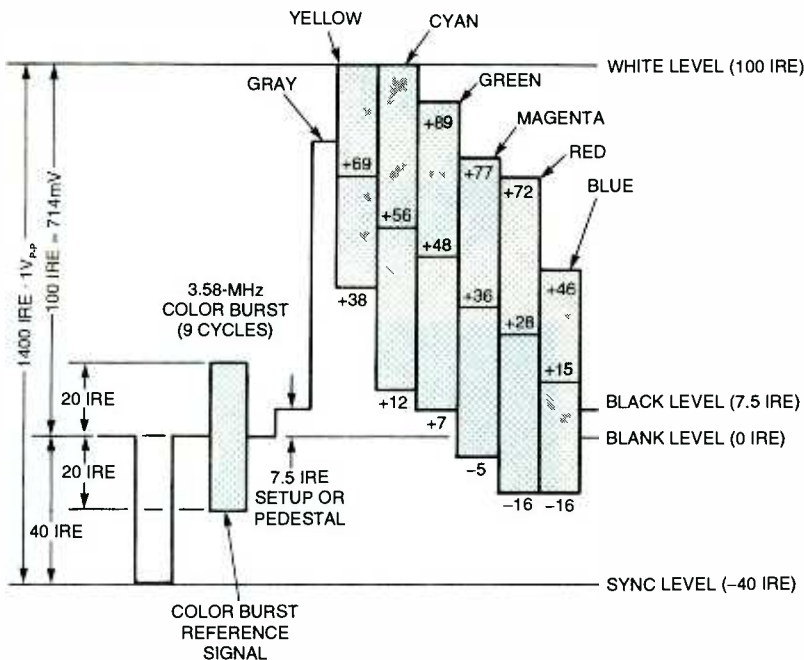

Fig. 1. The colorburst of an NTSC color-video signal is accurate and stable to  $\pm 10$  Hz. The problem is that it's only available for 7.5% of the time.
**Accurate Television.** Most modern VCRs and TV tuners give you access to the "baseband" television signal, which has a great reference signal as part of the NTSC television-signal specification. The signal that we are talking about is the *colorburst-reference* signal that is exactly  $3.579545 \text{ MHz} \pm 10 \text{ Hz}$ . That portion of the video signal is shown in Fig. 1. That level of accuracy is required by the FCC for any television-broadcast signal.